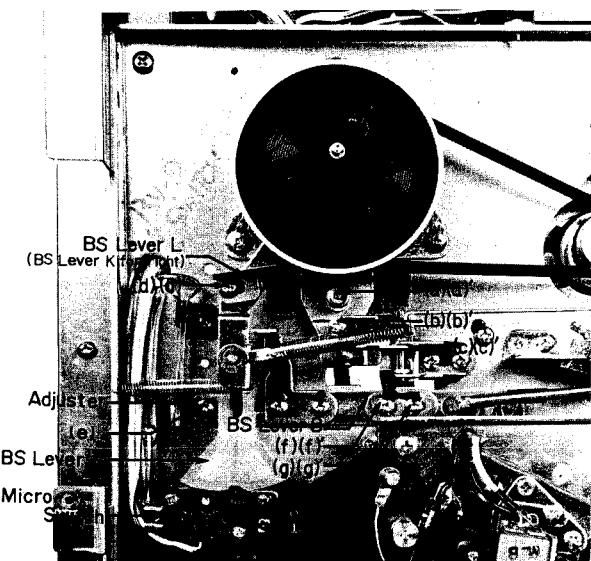

Fig. 8
1. TENSION ADJUSTMENTS (See Fig. 8)
2. BS LEVER A POSITION ADJUSTMENTS (See Fig. 8)